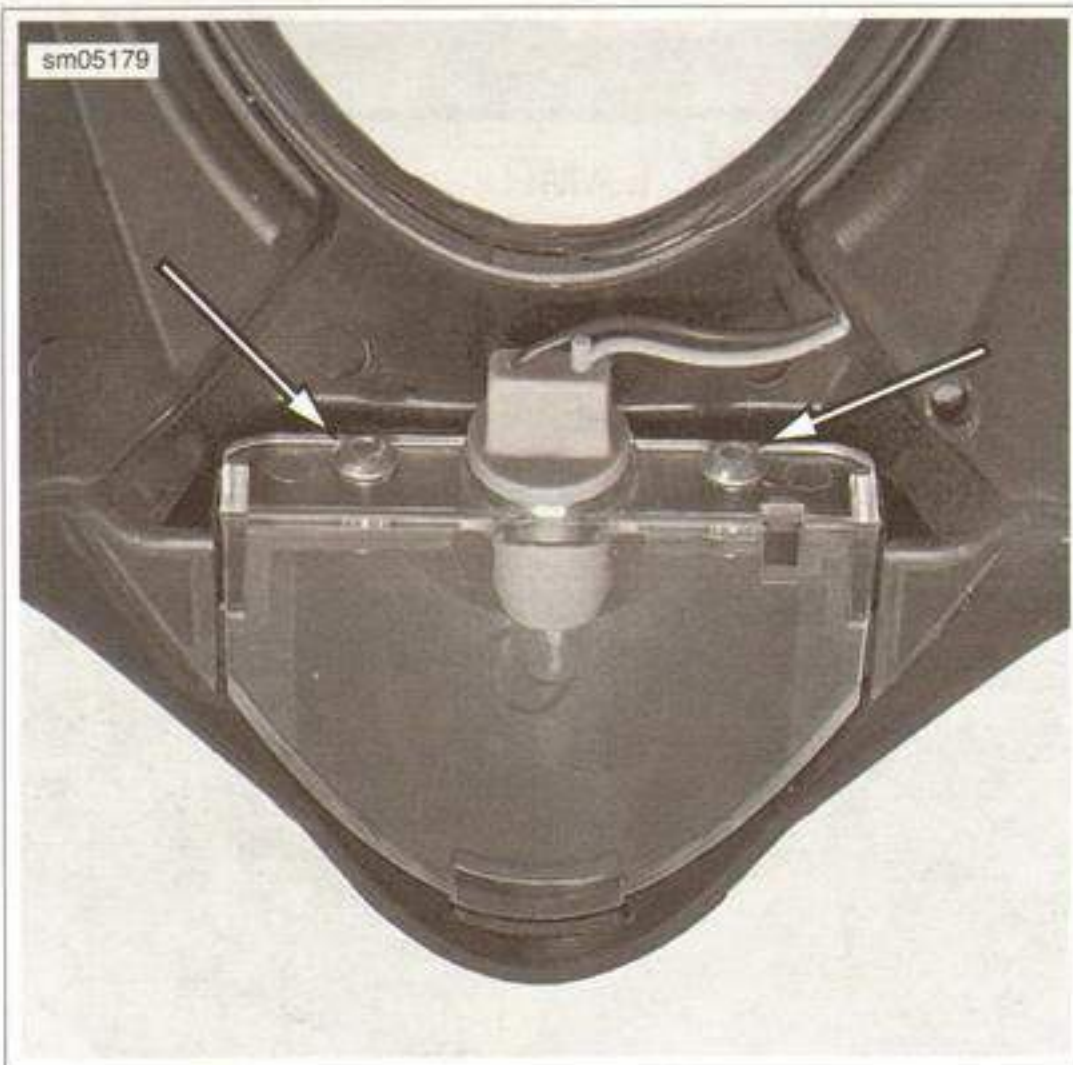

Figure 7-64. License Plate Lamp Lens Fasteners
3. See Figure 7-64. Remove license plate lamp lens and socket, then pull socket leads through license plate bracket.